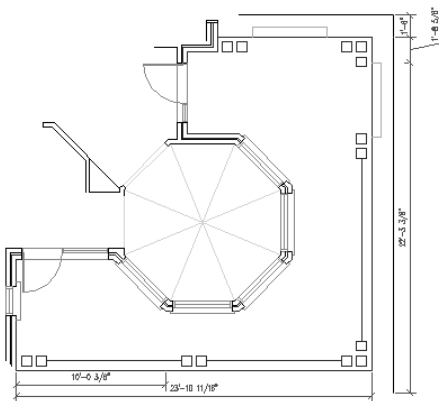

**Figure 14-13:** The floor plan with baseline and continued dimensions.
9. Save your drawing. It should look like Figure 14-13.